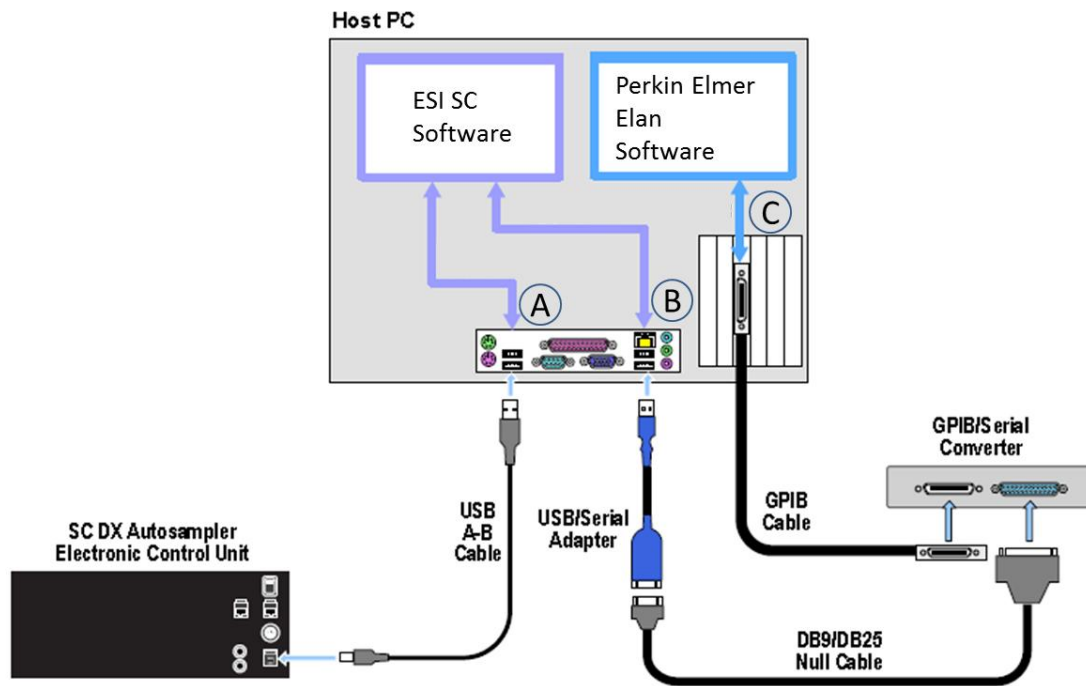

Figure 21: Connections for SC with Elan and using GPIB interface.
- 2) Connect the ICS 4894 to the computer using the provided 25-pin to 9-pin Null Modem Cable. Connect the ICS 4894 to the GPIB communication card or bus. Connect to power source and turn on. It is recommended that USB-Serial RS-232 converters be used. The Hardware Wizard will automatically install the required drivers but they may also be found in the "\\Program Files\\ESI\\ESI SC\\SupportFiles" directory. See Figure 21.